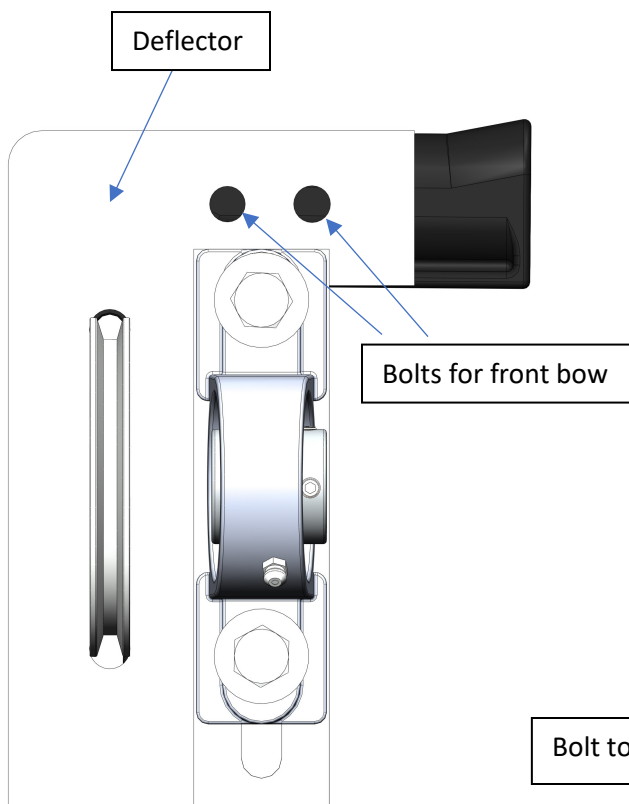

Figure 3: Waterproof Deflector
1. Deflector (Figure 3) should be made to suit the style of rail. Deflectors can be welded or bolted to the rail depending on the design. The purpose of having a deflector as part of the installation on a waterproof system is to prevent water from getting in through the front of the blocks.
2. The front bow should be bolted through the deflector to fix it in place. As per (Figure 3).
1. Ideal fixing of the front bow is through the deflector mounted on the front as in (Figure 3).